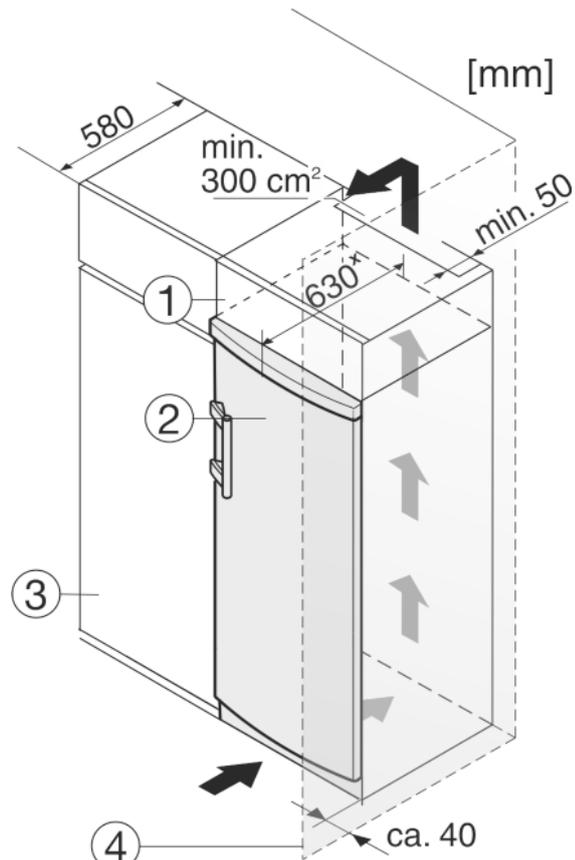

Fig. 9
The appliance can be built into kitchen units. A top cupboard Fig. 9 (2) can be added above the appliance in order to bring the appliance Fig. 9 (1) up to the height of the fitted kitchen units.
When installing with kitchen units (max. depth 580 mm), the appliance can be positioned directly next to the kitchen cabinet Fig. 9 (3). The appliance will project by 34 mm \* at the sides and 50 mm \* in the centre of the appliance in relation to the kitchen cabinet front.
If the appliance is installed with the hinges next to a wall *Fig. 9 (4)*, the distance between appliance and wall has to be at least 40 mm. This corresponds to the projection of the handle when the door is open.